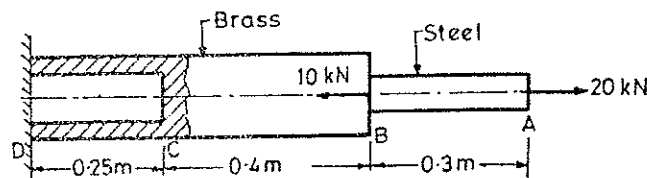

Fig. Q1
- (b) The diameters of the brass and steel segments of the axially loaded bar shown in Fig. Q1 are 30 mm and 12 mm respectively. The diameter of the hollow section of the brass segment is 20 mm. Taking  $E_s = 210$  GPa and  $E_b = 105$  GPa, determine